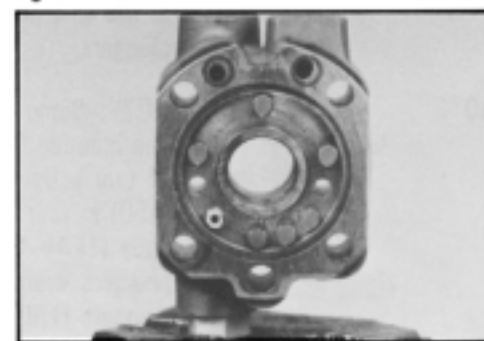

Figure 102
3. Assemble a hydraulic fitting securely in valve body (15A) hydraulic port. Clamp valve body assembled or disassembled securely in a vise, clamping against the hydraulic fitting or port bosses. Position valve body in the vise so that worm shaft, adaptor and upper cover can be assembled. SEE FIGURE 102.